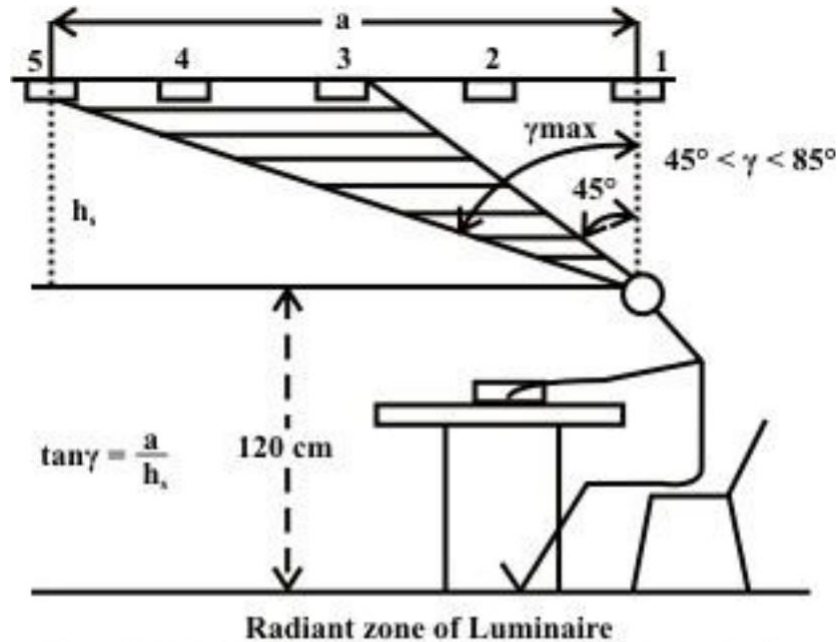

Fig. 1: Illumination Zone of a typical Luminaire
4. Determine. Max. Angle to be considered from length & height and plane of eye level & plane of luminaires. (Refer to Fig 1)